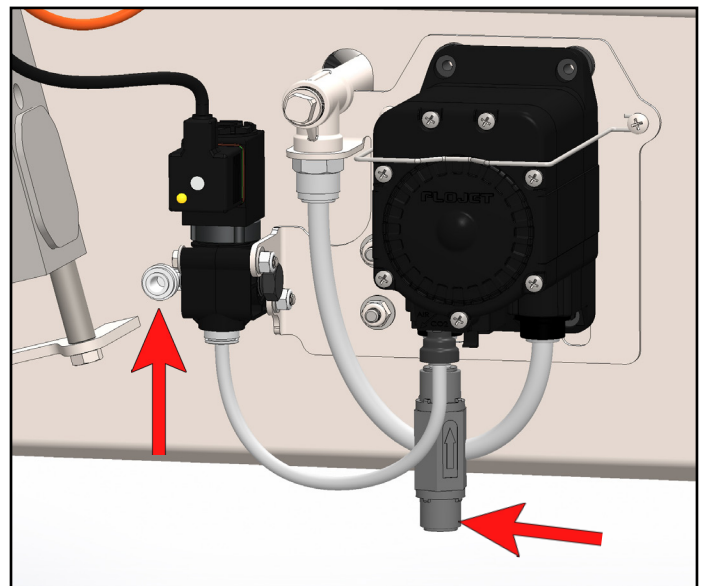

Fig. 34.2: Air and solution inlets
1. Connect compressed air (40 psi min.) to solenoid valve quick fitting inlet using 3/8" LDPE tubing or similar [Figure 34.2].
2. Connect solution source to check valve of pump inlet using 3/8" clear LDPE tubing (included) [Figure 34.2].